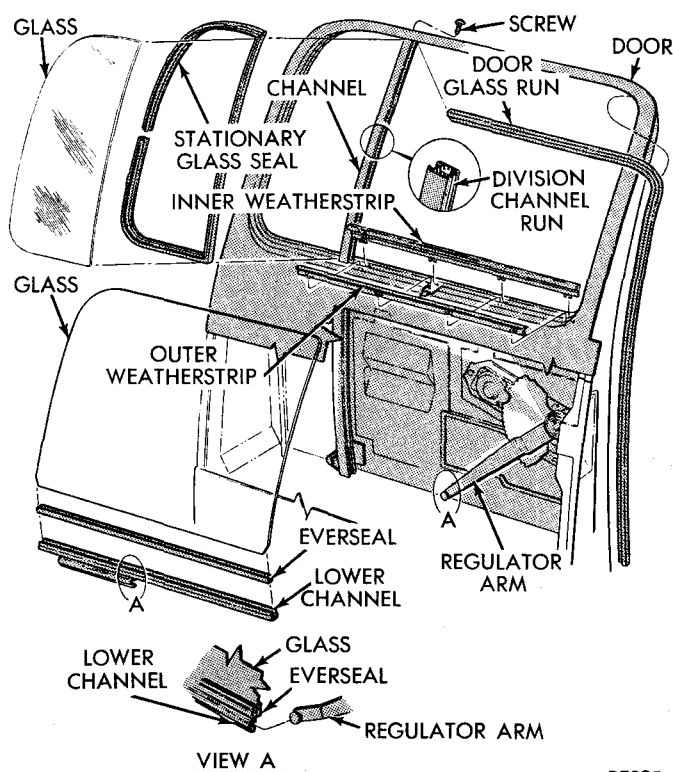

Fig. 2—Door Glass and Stationary Glass Rear Door
DOOR GLASS AND STATIONARY GLASS—REAR DOOR (Fig. 2)
(1) Remove division channel attaching screws at upper and lower ends, and remove channel.
(2) Move the glass and weatherstrip assembly forward and out of window opening.
(3) Inspect the weatherstrip (Fig. 2).